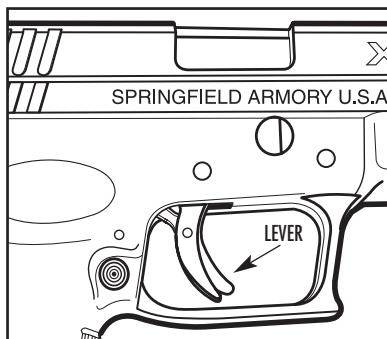
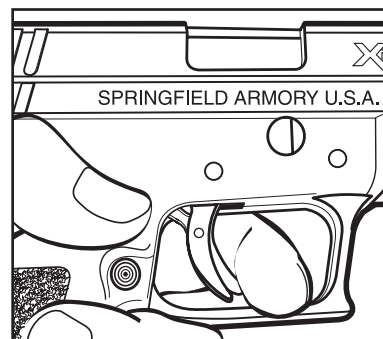

Figure 14-1
Figure 14-2
1. Trigger Safety - The trigger safety locks the trigger from moving backward. A lever incorporated into the trigger (Figure 14-1) deactivates the safety when completely depressed while pulling the trigger. The trigger can only be pulled if depressed together with the trigger safety lever. (Figure 14-2.)